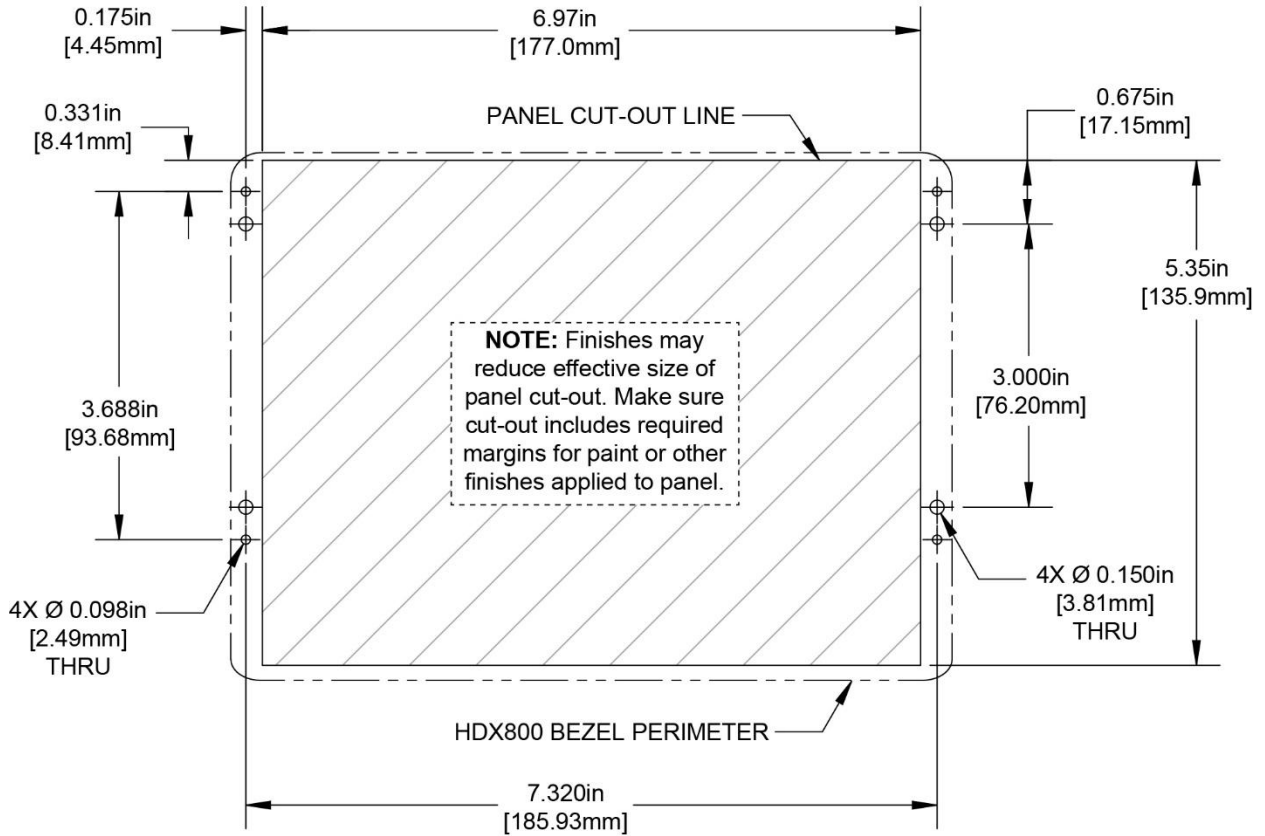

Figure 20: Panel Cut-out Dimensions – SV-HDX800 Display
- 7" Avionics Tray for SV-HDX800 Display – Figure 19 and Figure 20.